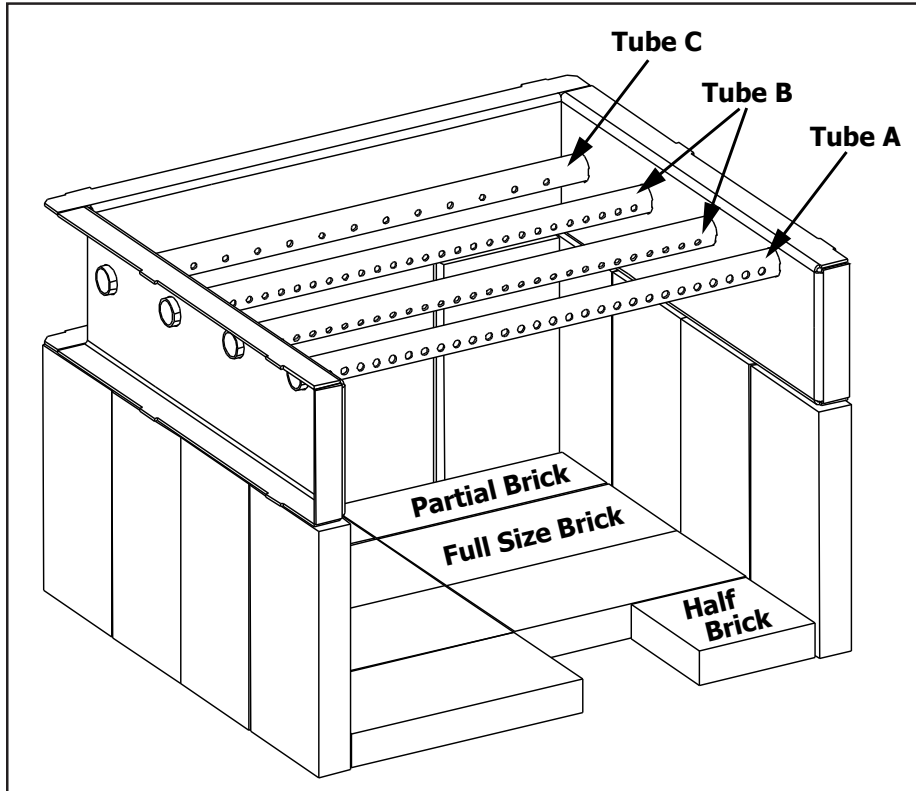

Figure 49: Brick Placement for 1700 shown with Secondary Air Channel and Tubes.
3. Open and close the door, applying pressure down, to ensure the door assembly is properly seated on the hinges. Refer to Figure 49.